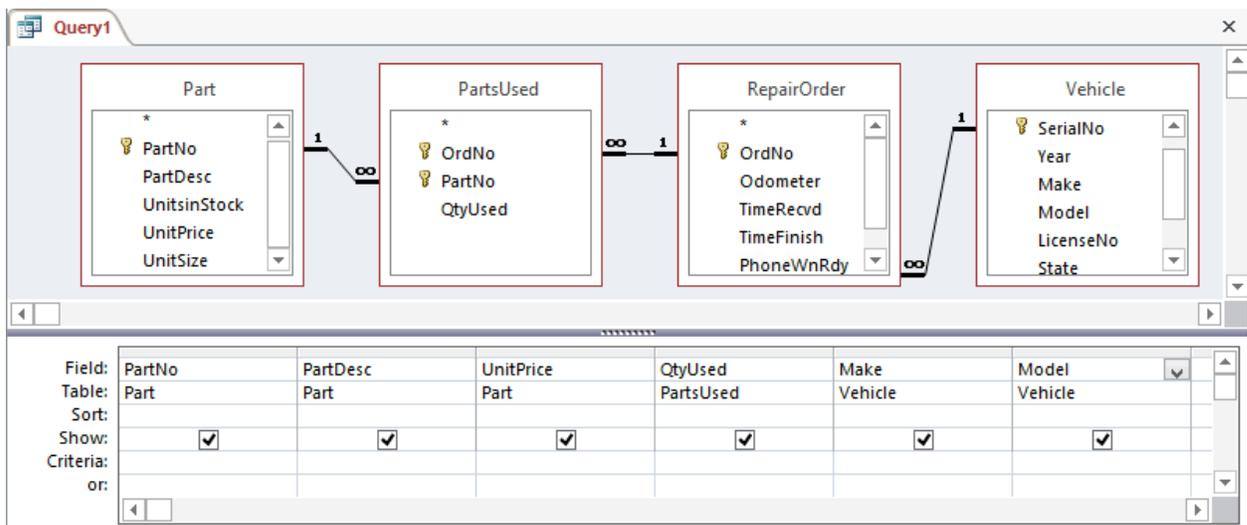

Figure 31: Design View of *RptQuery4*
3. Select Fields: Drag the following fields down to the query grid (Figure 31):